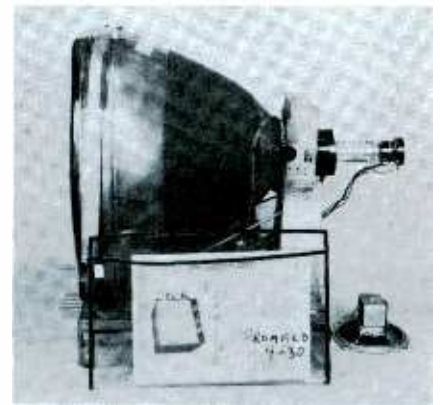

Fig. 2. Heavy plastic envelope containing all pertinent service data and set history should accompany chassis.
The basic arrangement of a high-voltage capacitive-divider probe is seen in Fig. 2. Capacitor C has a relatively small value (such as 5 mmf) and a voltage rating of at least 10,000 volts. Probe response is adjusted with the use of trimmer CT.
A word of caution is in order concerning the 100-to-1 probe. You will observe from Fig. 2 that there is no resistive element in the probe; consequently, it does not work at low frequencies. The probe operates as intended on higher frequencies, which include those found in TV horizontal-sweep circuits. On the other hand, if you attempt to use such a probe in a vertical circuit (operating at 60 cps), you will get severe waveform distortion and an incorrect attenuation factor. The fact that a 100-to-1 probe cannot be used at low frequencies is not disadvantageous—the probe is not needed in low-frequency TV test work. A 10-to-1 probe will handle these low-frequency voltages adequately, and should always be used in such tests.
3. Obtain all pertinent service literature and set history, and place it with the chassis. Heavy plastic jackets like that shown in Fig. 2 are ideal for this purpose.